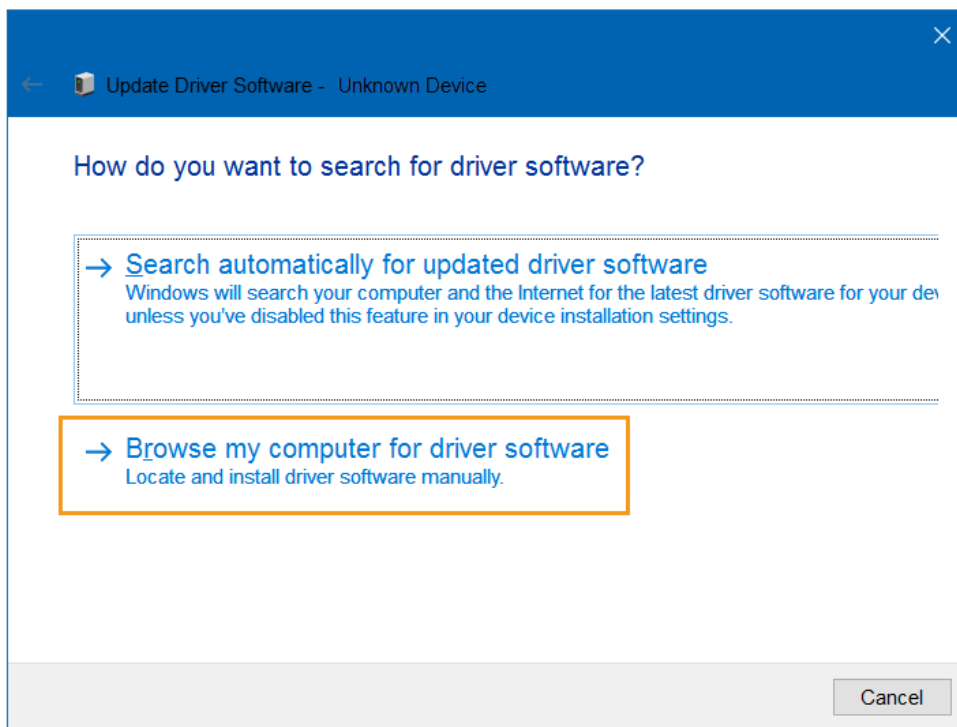

Figure 15. Browse my computer for driver software
- 4) Click **Browse my computer for driver software**, as shown in Figure 15.